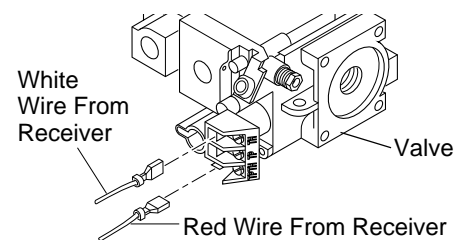

Figure 18 - Connecting Wires
6. Connect wires as shown in Figure 18.